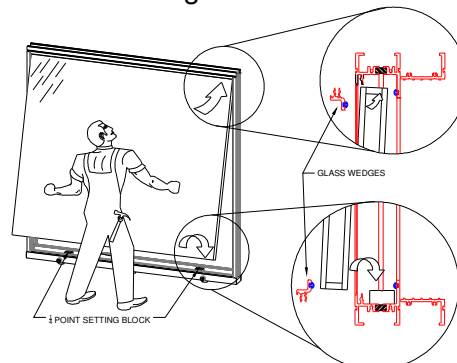

Figure 10:
3. Insert glass into the head channel. Push up and swing the bottom inward until vertical, then lower down into the sill (Figure 10). Center the glass horizontally into the daylight opening (Figure 10).